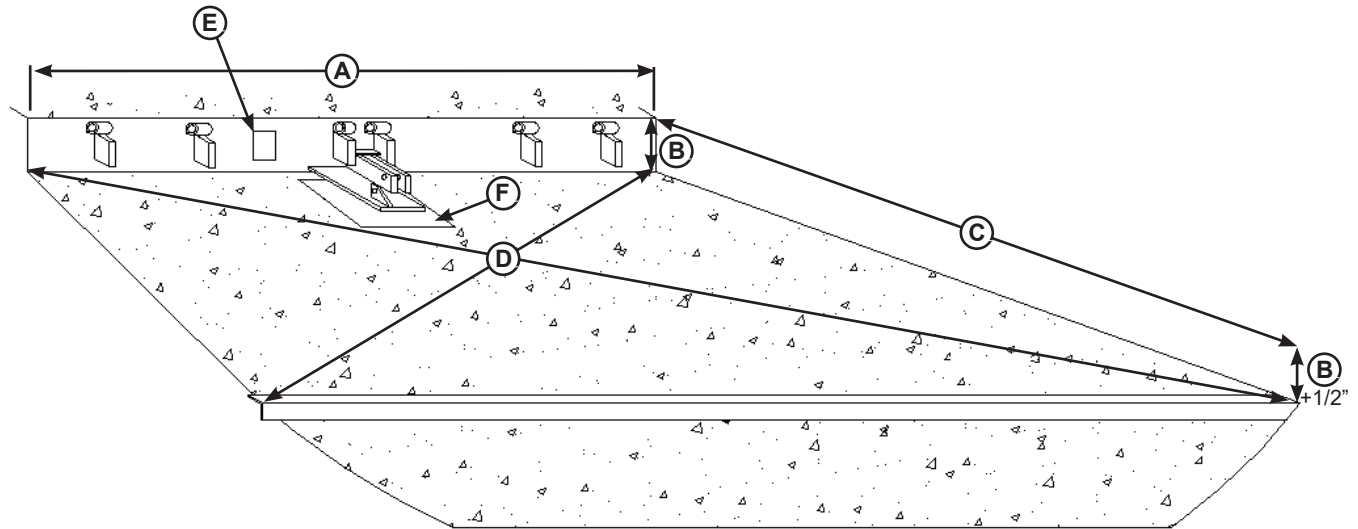

Figure 5
2. Check the entire dock leveler pit for proper construction according to approved/certified pit drawings. Make sure pit is square, has the proper depth and taper by making the following measurements (see Figure 5):